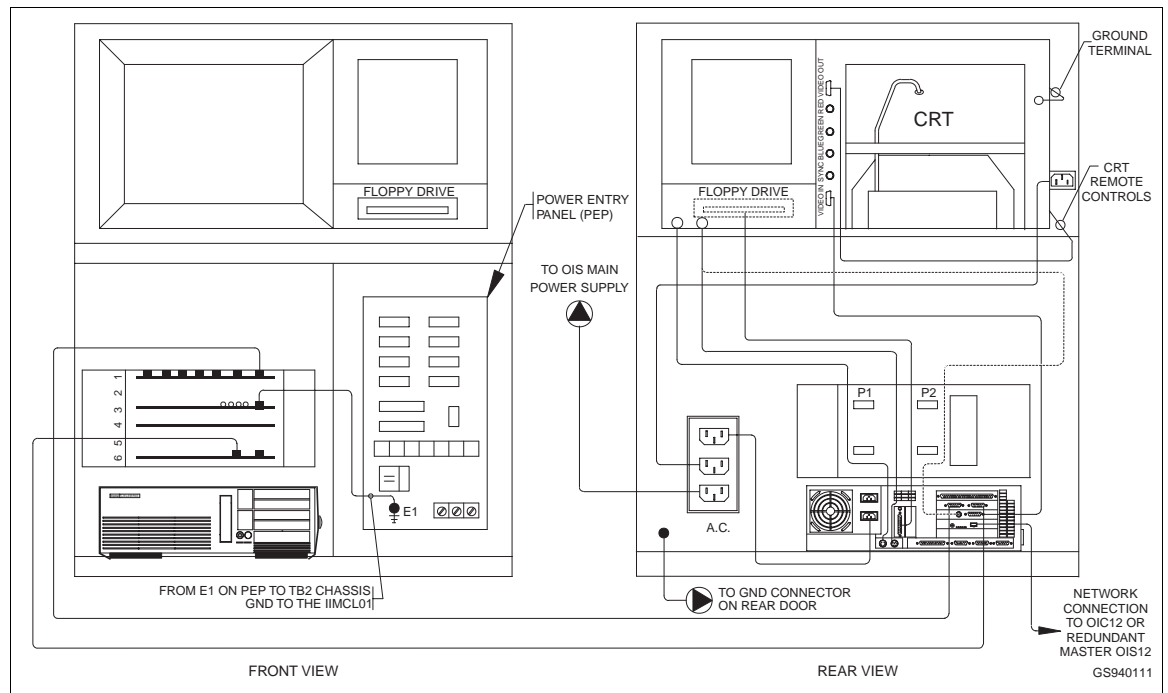

Figure 8-1. Colour Monitor Removal
1. In the front of the cabinet, turn off the main circuit breaker on the power entry panel to shut off power to the IIOIS12/IIOIC12. Check the power indicator to see if power is removed from the system. See Figure 8-1 when using this procedure.